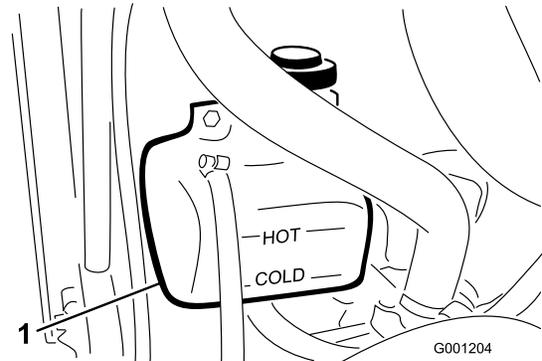

Figure 24
1. Check the level of the coolant in the expansion tank (Figure 24). The coolant level should be between the marks on the side of the tank.